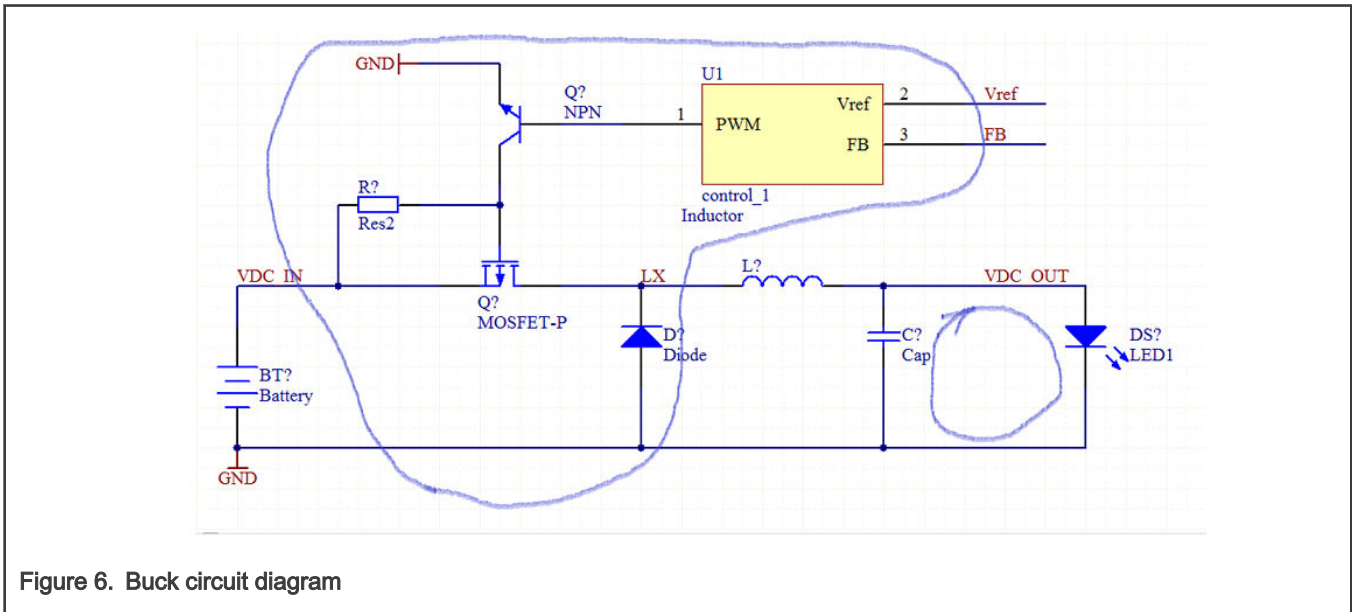
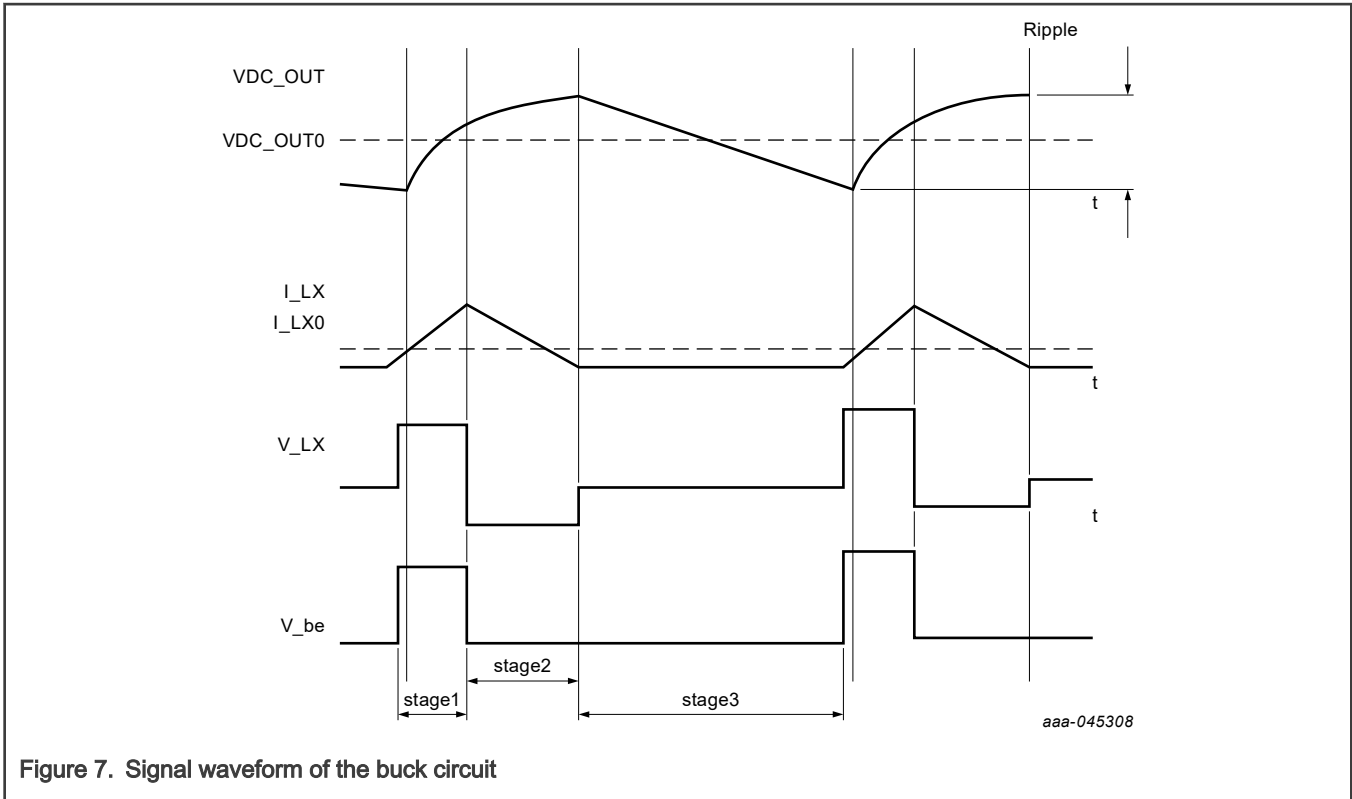

Figure 6. Buck circuit diagram
Figure 7. Signal waveform of the buck circuit
For the DC-DC converter of LPC55xx, the MOSFET, diode and corresponding controller are integrated internally, but the inductor and capacitor components have to be connected externally because of large size, so in Figure 6, all components inside the blue circle are integrated into the LPC55xx, all components outside the circle are connected externally. The “LX” is the external pad of LPC55xx internal DC-DC converter, where internal P MOSFET and diode are connected together. The LX pad requires to be connected to external 4.7  $\mu$ H inductor and 22  $\mu$ F capacitor. The working procedure is as the above procedures. The DC-DC converter load is the VDD\_MPU pin, which provides power for the core of LPC55xx and the digital peripheral in active mode.
So if the MOSFET is required to be connected serially in a circuit, the P MOSFET is preferred because pre-driver circuit is simple, that is why the P MOSFET is selected in the buck circuit for LPC55xx. In detail, a transistor is used as a pre-driver to drive P MOSFET as shown in Figure 6, when the PWM signal is high, the NPN transistor turns on, the gate voltage of P MOSFET is LOW, the  $V_{gs}$ (the voltage between gate and source) voltage of P MOSFET is negative, the P MOSFET turns on, the power supply with
In Figure 7, the X coordinator is time and the Y coordinator is the voltage or current signals. The Vbe is the PWM signal waveform(PFM) which drives the base of transistor. As shown in Figure 6, the VLX signal is the signal voltage waveform on the LX pad of LPC55xx, the ILX is the current value on the LX pad with the time, the ILX0 is the average value of the ILX, because the ILX is a current waveform with time, it cannot be observed with oscilloscope directly, the VDC\_OUT is the voltage on the capacitor, also the DC-DC converter output voltage, the VDC\_OUT0 is the average voltage of the capacitor based on Figure 6.
In Figure 7, the cycle of buck converter consists of three stages: stage1, stage2 and stage3, which corresponds to the three stages discussed in Mechanism of DC-DC circuit for buck converter.
**Stage 3:** During stage 3, the buck circuit does not charge the capacitor while discharge to load, the PFM signal is LOW logic, the transistor turns off, the P MOSFET turns off, the diode freewheeling process is completed so the diode turns off, the capacitor is not charged. The VLX is the LX pad voltage, which is the same as capacitor voltage during stage 3 because the current flows through the inductor is zero during stage 3. The ILX is zero in stage 3. Because the load consumes current, the capacitor voltage reduces, assuming that the load consuming current is constant, the capacitor voltage reduces linearly with time so the VDC\_OUT voltage is shown in stage 3 in Figure 7.
The DC-DC converter of LPC55xx is an accessory module of LPC55xx, so its control regulation has to be simple. Based on Figure 6, the yellow block is the controller, the controller has three signals: FB, Vref, and PWM signal, the FB and Vref signal are input signal, the PWM signal is output signal for the controller.